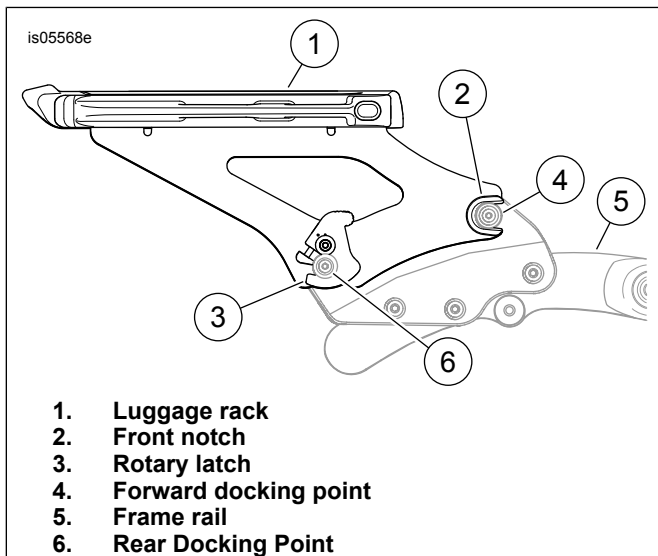
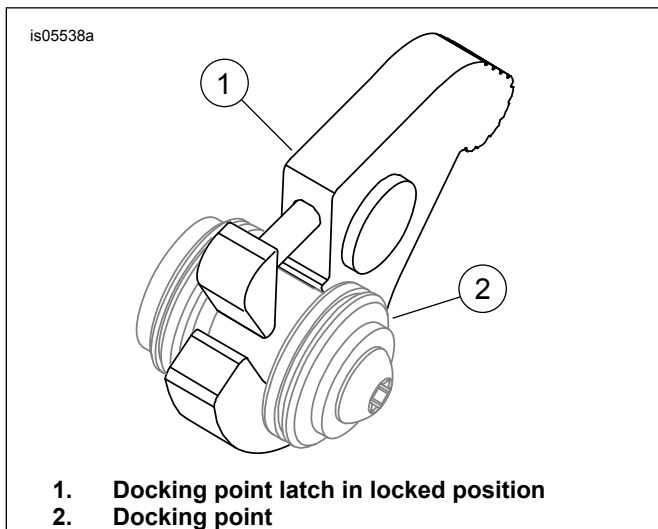

Figure 2. Luggage Rack
Figure 3. Latch and Docking Point
- Apply a few drops of Loctite 271 - Red to the **clean** threads of two small button head screws (7) removed in Step 3. Insert the screws through the holes in the horizontal mounting flanges (11) of the support and into the threaded holes in the rack center section, but do not fully tighten.
- Apply a few drops of LOCTITE 271 THREADLOCKER (red) to the **clean** threads of the two large button head screws (12). Insert into the holes in the vertical mounting flange of the support. Tighten the two small screws (7) to 10.8–13.6 N·m (96–120 **in-lbs**). Tighten the two large screws (12) to 16.3–21.7 N·m (12–16 **ft-lbs**).
- Position the rotary latches (3) over the rear docking points (6). Check to be sure the rotary latches fit into the neck of the rear docking points as shown in Figure 3. This may require some gentle squeezing or spreading of the side plates.
The docking points must be fully engaged. See Figure 2 and Figure 3 for correct engagement. If docking points are not fully engaged the rack could shift position or come loose during operation.
- See Figure 2. While standing behind the motorcycle, place the rack side plate front notches (2) into the forward docking points (4). Make sure the notches seat fully into the mounts.